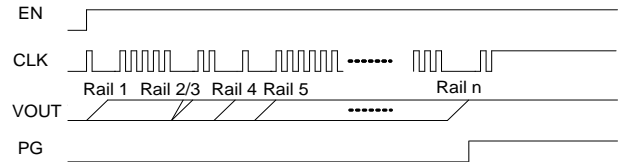
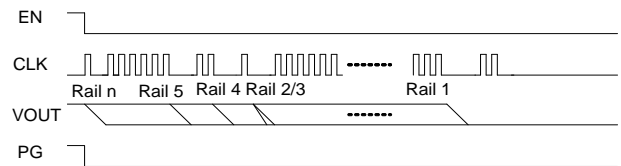

Figure 5: Soft Start when CLK Pulls Down (Pausing)
Figure 6: Soft Shutdown when CLK Pulls Down (Pausing)
- If CLK_PAUSE_EN = 1, the initiator/target PMIC pulls the CLK pin down during the soft start/shutdown of any power rail(s). Figure 5 shows when CLK pauses during start-up. Figure 6 shows when CLK pauses during soft shutdown.